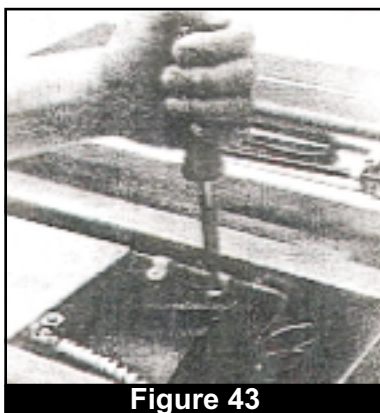

Figure 43
6. For CA70 units, remove the two screws securing the clips that attach the copper thermostat probe to the fan blower. Use a medium flathead screwdriver. Free the copper probe and carefully set out of the way. (Fig. 43)